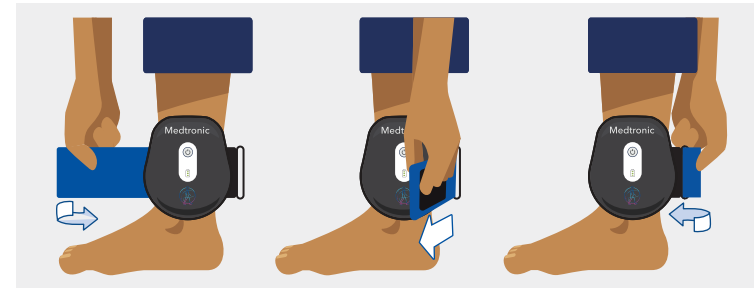

Figure 50. Securing the ankle band
4. Secure the ankle band. The ankle band should be snug, but comfortable (Figure 50).